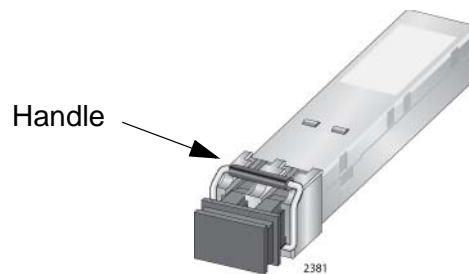

Figure 93. Handle on SFP+ Transceiver
2. Orient the SFP+ transceiver with the handle on top, as shown in Figure 93.